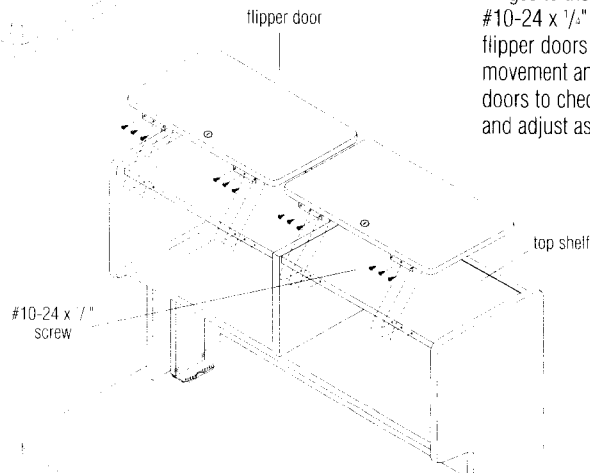

Figure 7
19. Turn flipper doors over and position them onto each top shelf as shown with the keyed lock to the front. Align the three holes of each hinge with the pre-drilled holes in the top shelves. Fasten, but do NOT tighten, the hinges to the top shelves with three #10-24 x 1/2" per hinge. Center the flipper doors to the opening for free movement and tighten screws. Close doors to check for proper alignment and adjust as necessary (Figure 7).